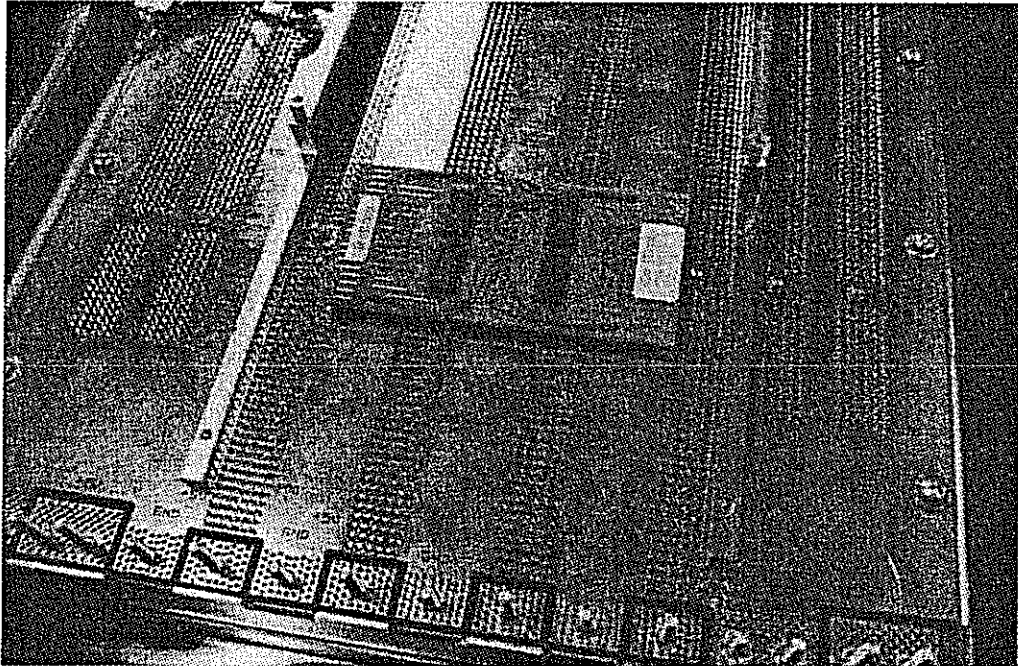

Figure 7-70. Scan Adapter Board
9. Pull the scan adapter board off of the backplane. Refer to Figure 7-70.